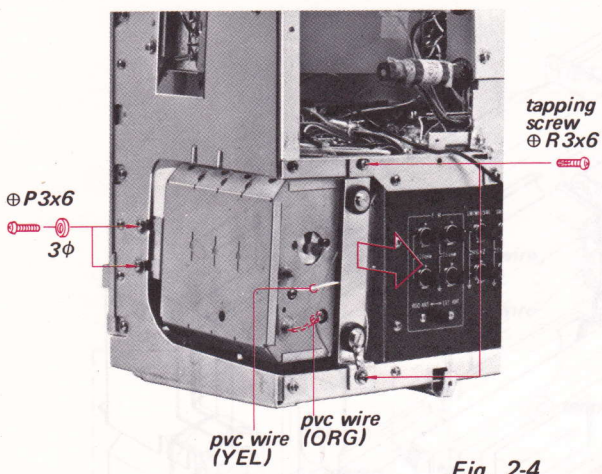

Fig. 2-4
1. Remove the four screws shown in Fig. 2-4.
2. Unsolder the two pvc wires shown in Fig. 2-4.